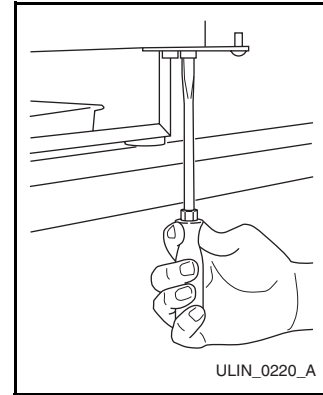

Figure 33
5. Remove bottom hinge from cabinet (four screws) and screws on opposite side of cabinet (**Figure 33**).